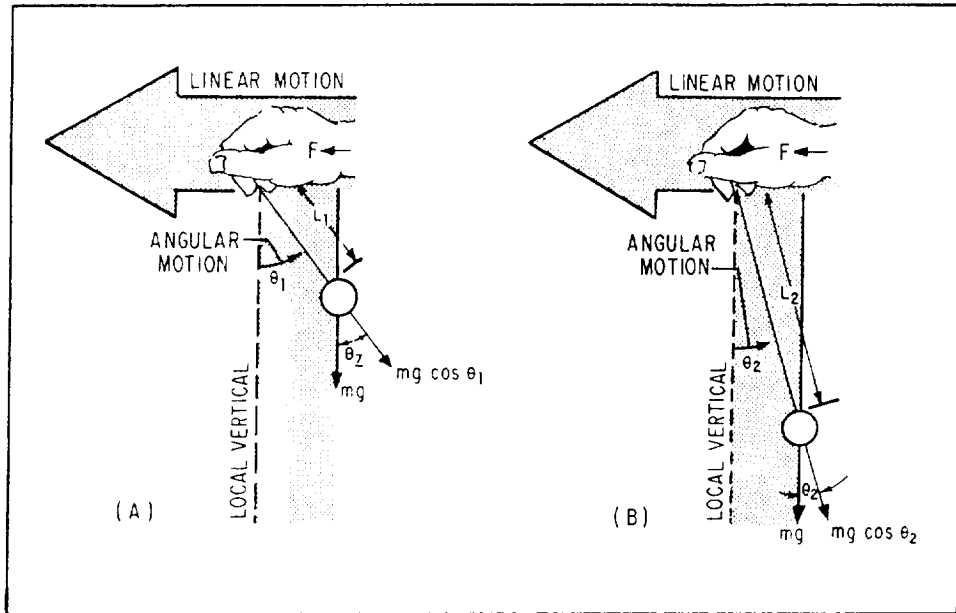

Figure 7-41.-Simple pendulum.
One property of the simple pendulum that is very useful in the construction of an inertial stable element is shown in figure 7-41. Two pendulums are suspended by strings of different lengths. Equal forces horizontally accelerate the suspension point of each pendulum. The inertia of the bob resists the change in its state of motion. This action causes the bob to lag the point of suspension. It also produces an angular motion of the pendulum about the local gravity vector. Figure 7-41 shows that the length of pendulum (B) is longer than pendulum (A). It also shows angular motion of pendulum (B) is less than pendulum (A) for a corresponding linear motion of the suspension point. Therefore, the longer the suspending string, the less the angular motion of the pendulum for a given linear motion of the suspension point.